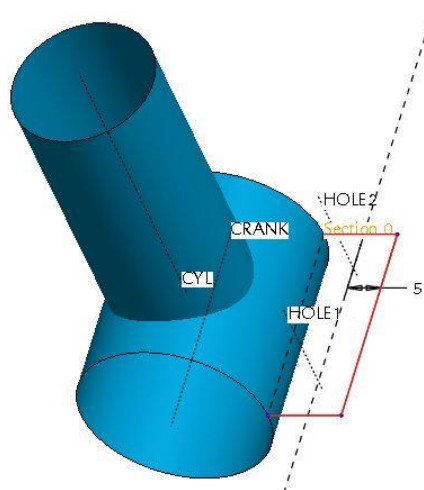

Figure 13 – Datum Sketch
- Start the Sketch Tool  and create a sketch on the datum plane **TOP** as shown Figure 13.